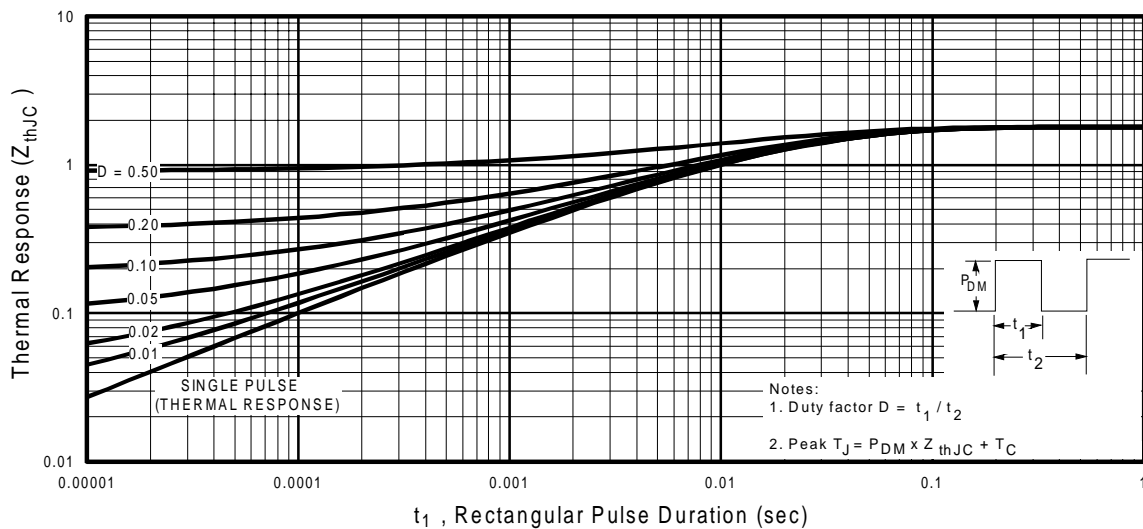

Fig 11. Maximum Effective Transient Thermal Impedance, Junction-to-Case
- ① Repetitive rating; pulse width limited by max. junction temperature. (See fig. 11)
- ② Starting $T_J = 25^\circ\text{C}$, $L = 14mH$